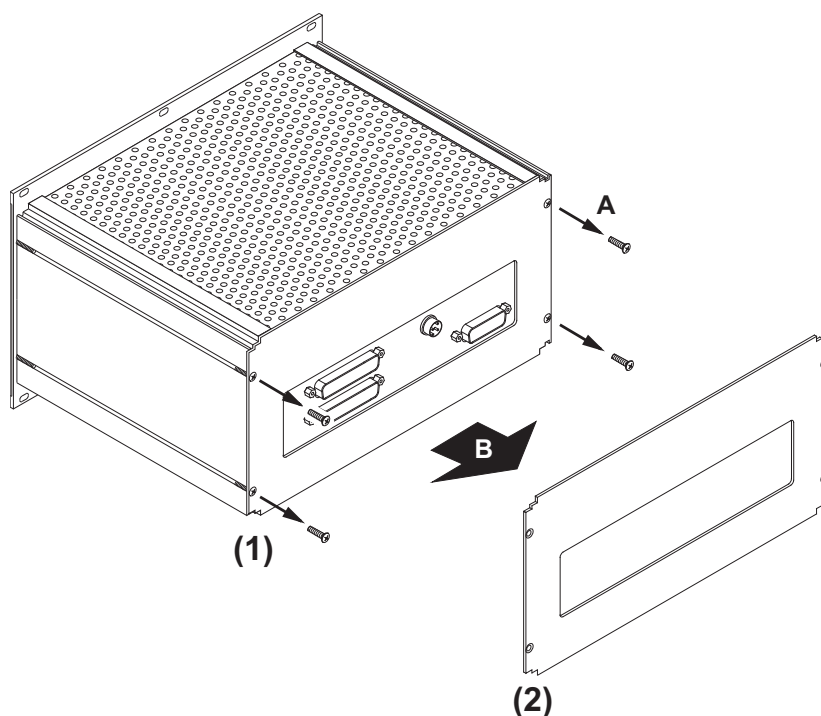

Fig. 8-2 Removing of the backplane cover
4. Loose the four screws on the rear side. Open the backplane cover and remove it. Store screws and metal plate. (Fig. 8-2)